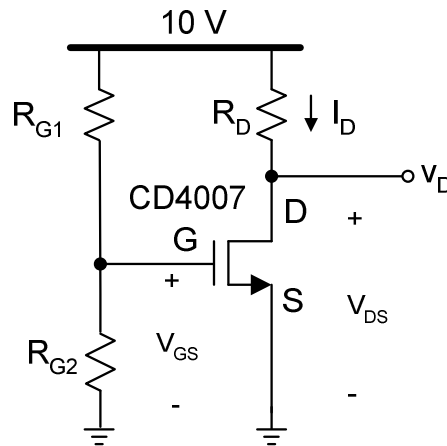

Fig. 2. MOS transistor circuit
- For the circuit in Fig. 2, using the parameters you extracted from the previous lab for the CD4007, calculate all resistor values and unknown voltages such that $I_D=1\text{ mA}$ and $V_D = 5\text{V}$.
- Construct the circuit in Fig. 2 in Pspice and find the small signal parameters r_{ds} , and g_m . Compare SPICE results and hand calculations. Explain any differences.
1. Connect the circuit in Fig. 2 using the resistor values you calculated in the prelab.